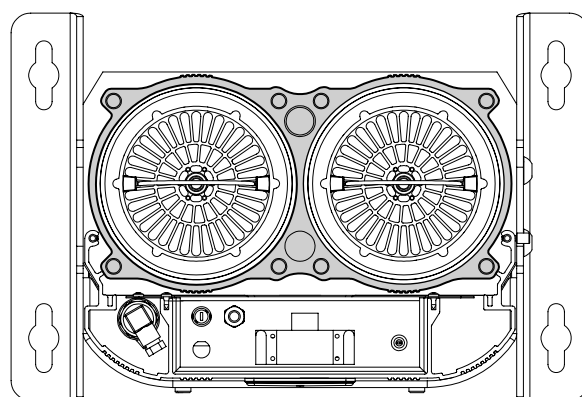

Figure 2.
5. Lift the wire handle and remove the cartridge from the dryer column. (See figure 2).